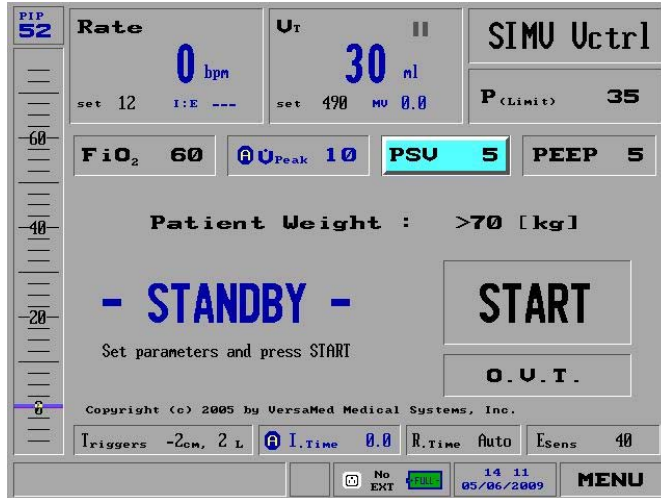

Figure 53: PSV Selected on the Main Screen
1. Select **PSV** setting from the second row of windows on the **Main** screen (Figure 53):